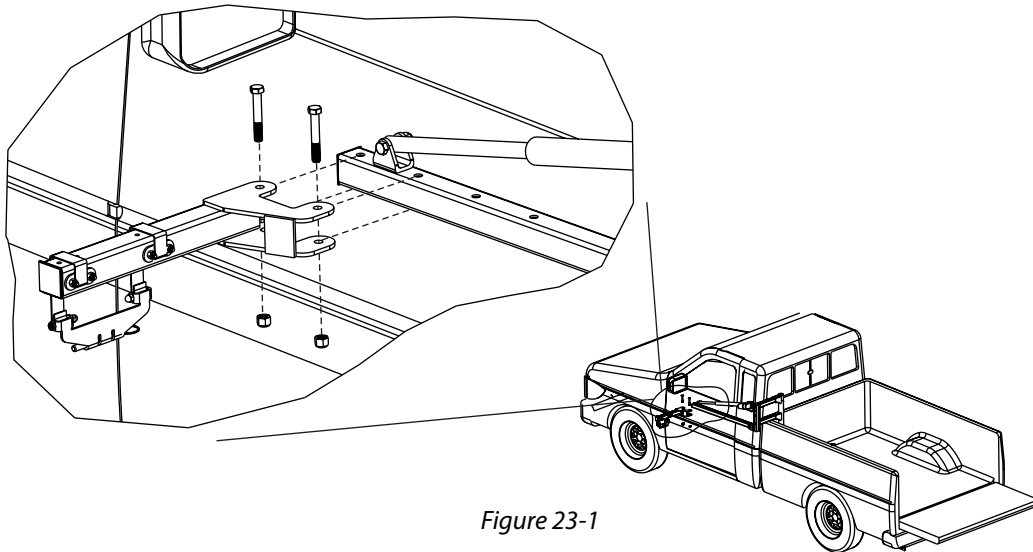

Figure 23-1
**4. Attach Strap Arm in the appropriate set of holes based on the amount of reach required.** *[Figure 23-1]*